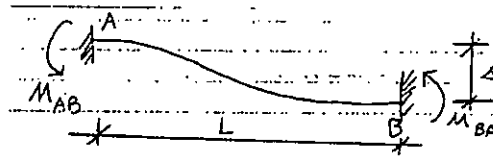

Figure 1
- b. The prismatic beam AB shown in Fig. 1 is subjected to a displacement,  $\Delta$ , at end, B with respect to end A, (i) Calculate end moments  $M_{AB}$  and  $M_{BA}$  from the basics. (ii) If the other end (End B) is simply supported, calculate the moment at the fixed end. 15